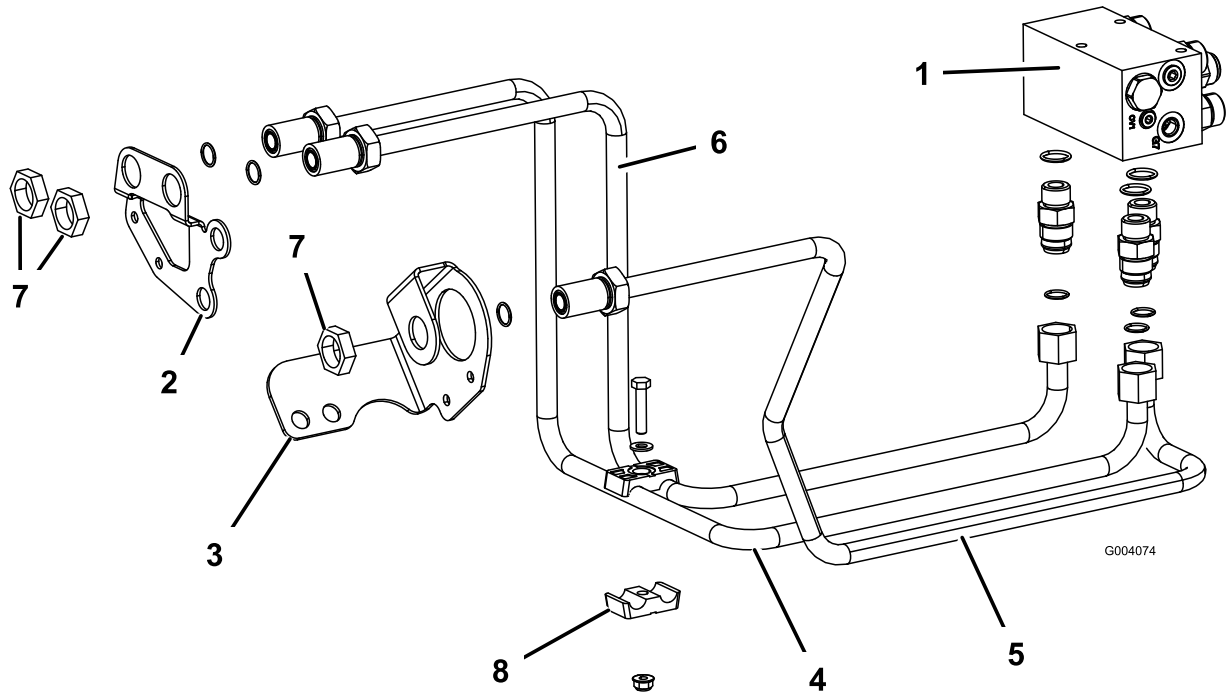

Figure 10
1. Route the hydraulic tube, Part No. 108-7624, from the left manifold fitting labeled “RF” to the right hole in the right frame bulkhead bracket (Figure 10).
2. Secure the rear of the hydraulic tube to the manifold fitting and the front to the bulkhead with a locknut (1-5/16 inches); refer to Figure 10.
3. Route hydraulic tube, Part No. 108-7626, from the center manifold fitting labeled “REV” to the hole in the left frame bulkhead bracket (Figure 10).
5. Route hydraulic tube, Part No. 108-7625, from the right manifold fitting labeled “LF” to the left hole in the right frame bulkhead bracket (Figure 10).
7. Secure the 2 right bulkhead lines together with the tube clamp halves, bolt (5/16 x 1-1/2 inches), flat washer (5/16 inch), and a flange nut (5/16 inch); refer to Figure 10.